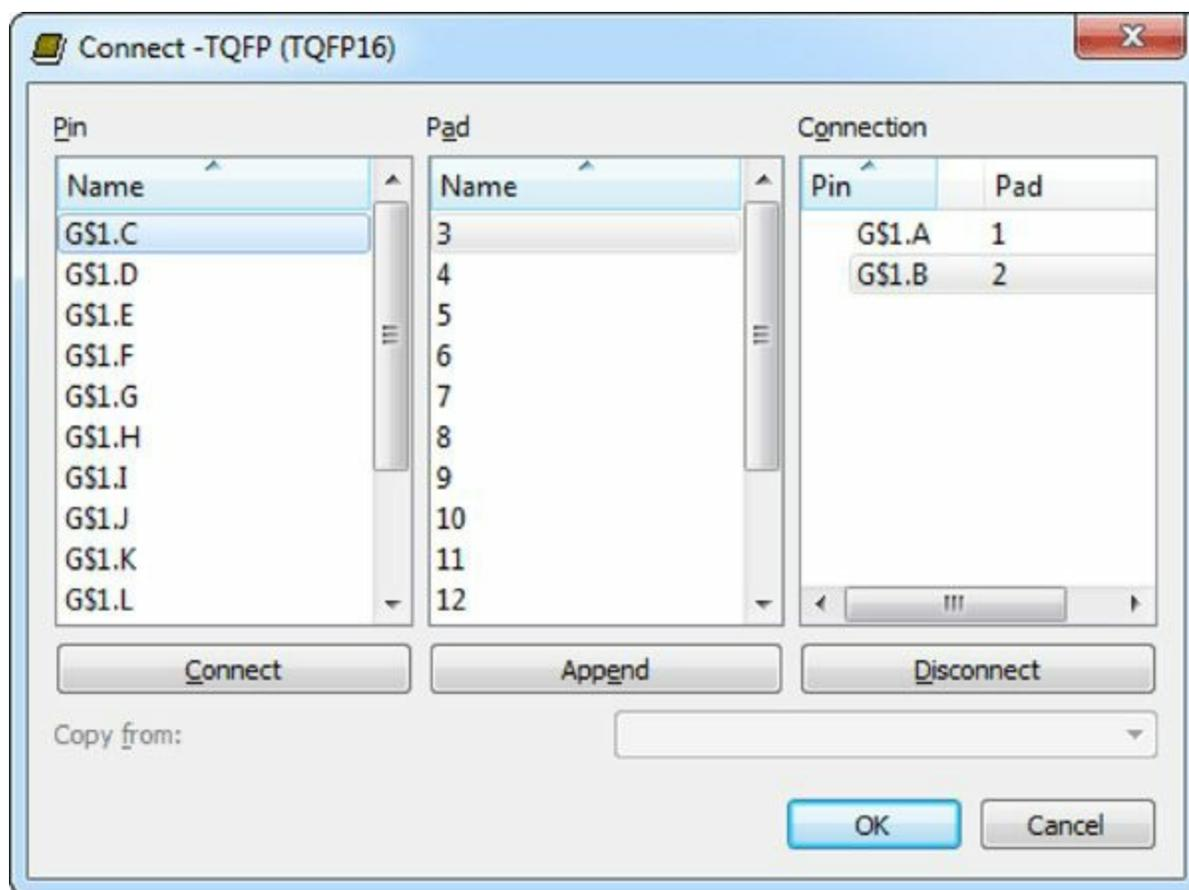

Figure 8.6: Creating Pin/Pad Connections
5. Click the Connect button. This brings up a dialog that creates associations between pins and pads. Figure 8.6 shows what it looks like.